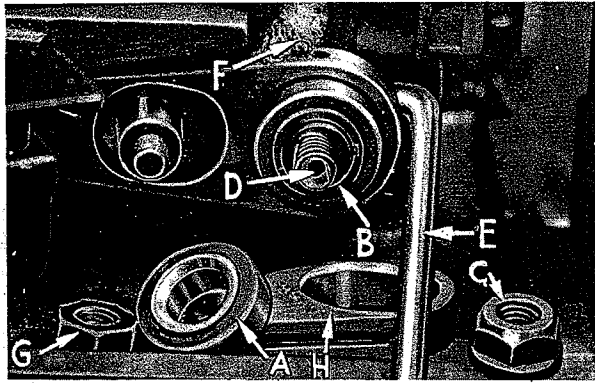

Fig. 14
If eccentrics are unusually tight fitting, in addition to removing nut (C, Fig. 14) from shaft (D), it may be helpful to remove nut (G) and feed driving connection (H). Then continue as originally suggested.